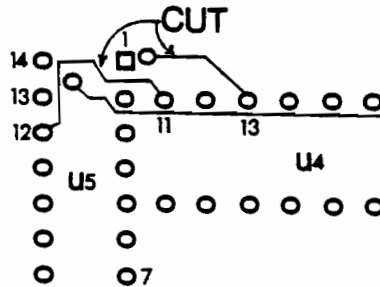

Figure 28
4. Counting clockwise locate pin 12 on U5 and pin 11 on U4. Cut the foil trace running between these two pins with a sharp knife (see figure 28). Likewise cut the foil trace running from pin 13 on U4 to the feed through hole next to pin 1 on U5.